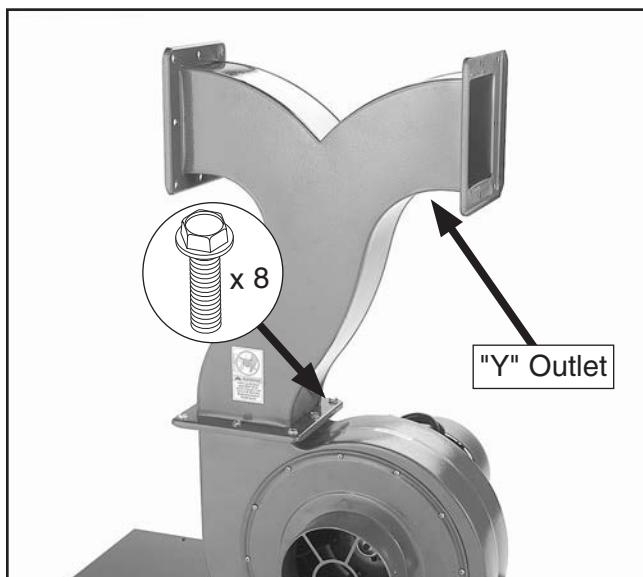

Figure 14. Outlet connector installed.
5. Secure the metal "Y" outlet to the impeller outlet with (8) $5/16$ "-18 x $1/2$ " flange bolts, as shown in **Figure 14**.